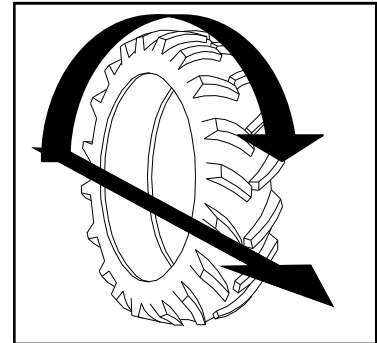

FIG 127-1
**WHEEL BOLTS**– If you do not have the proper equipment to mount a tire, let your local qualified tire sales/service dealer mount the tire for you. The tire should be mounted on the rim according to figure 127-1 for best traction and tread cleaning action. To install wheel and tire assembly on the wheel hub lubricate studs with an anti-seize grease. Align the wheel bolt holes with the wheel hub studs and mount the wheel on the hub.